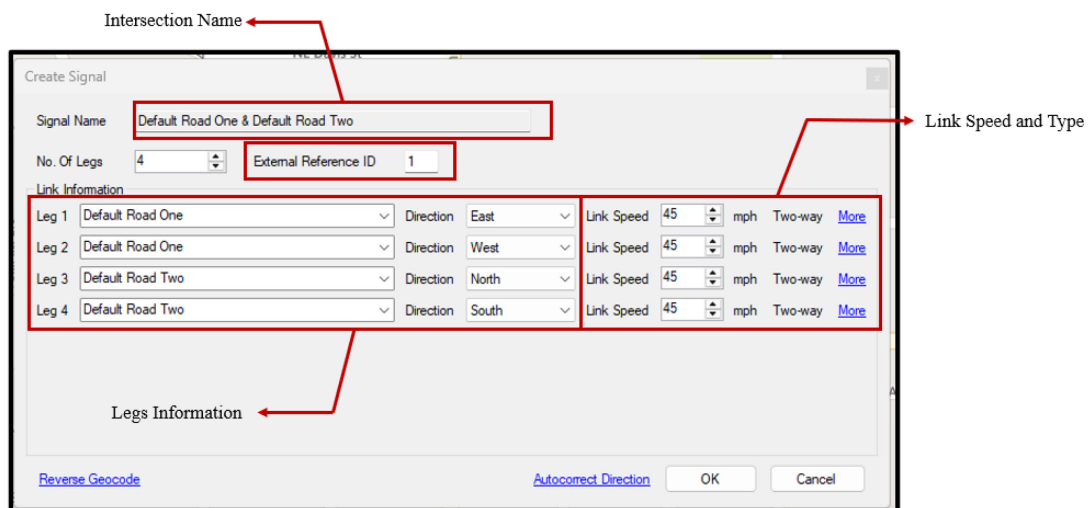

Figure 36: Creation of Signalized Intersection
- ii) After clicking on New Signal, users can add the name of intersection. Users should add an “External Reference ID”. It can be any number, but that number should match the text in the VCID file as shown in Figure 36.